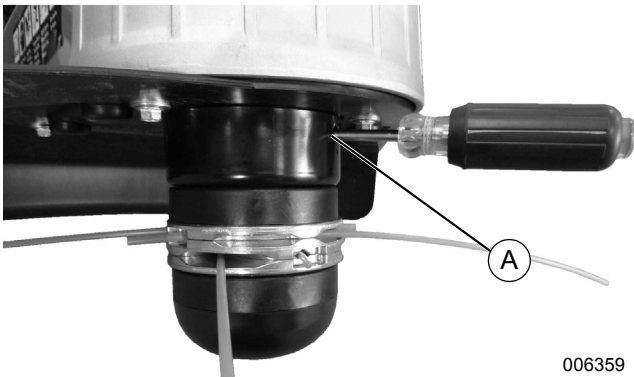

Figure 4-1. Quick Lock Head Disassembly
1. See Figure 4-1. Align the hole in the anti wrap canister (A) with the hole in the internal housing.